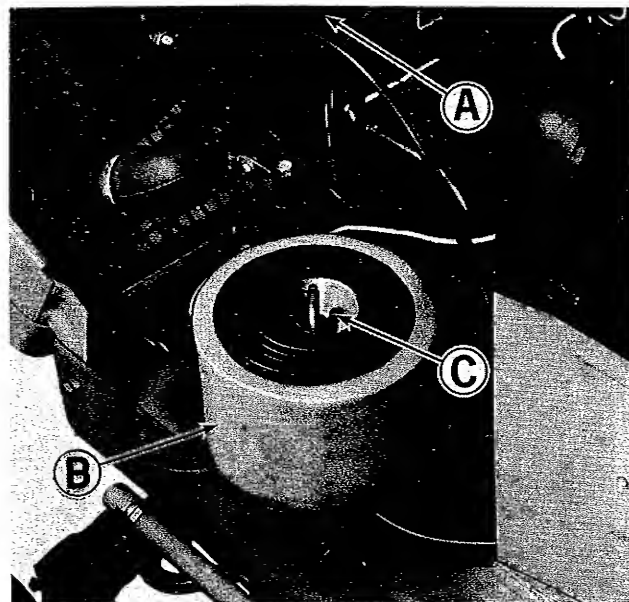

Figure 20. Air cleaner with cover removed on left side of engine.
See figure 20. All grass and chaff should be removed from the engine fins (A); **CAUTION: THE ENGINE FINS ARE VERY HOT AFTER THE ENGINE HAS BEEN OPERATED. DO NOT TOUCH THEM UNTIL THE ENGINE HAS BEEN ALLOWED TO COOL. NEVER SPRAY WATER ON A HOT ENGINE.**
2. See figure 20. Remove the foam precleaner (B) and wash it in liquid detergent and water and squeeze dry.
4. Install the foam precleaner as shown in figure 20.
The engine air cleaner is made up of two types of filters. The foam filter (Figure 20, Item B) and a dry filtering element. The foam element should be cleaned and oiled every 25 hours as explained under the Every 25 Hour Maintenance Services. Once a year or every 100 hours, whichever occurs first, the paper element should be removed and cleaned or replaced. Proceed as follows:
2. See figure 20. Remove the foam element (B) and clean and oil it as described in the Every 25 Hour Maintenance Service.
3. Remove wing nut (C) and remove the paper element from the air cleaner.
5. See figure 20. Replace the paper element and wing nut (C) and tighten it securely.
6. Install the foam element (B) over the paper element as shown in figure 20.